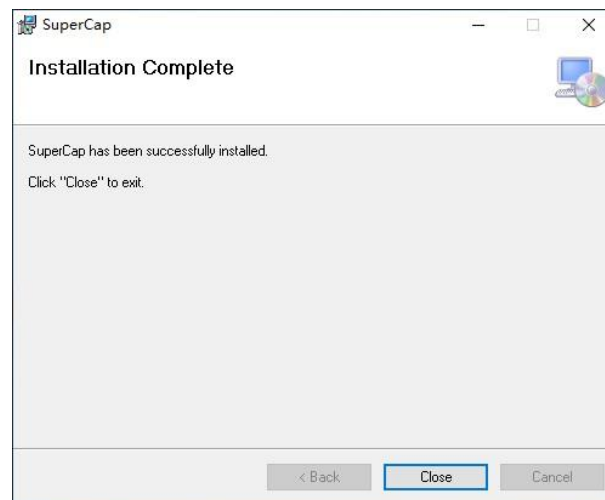

Figure 4-8: Installation Complete
Step 4: The Installation Complete window appears (**Figure 4-8**). Click **Finish** to exit.